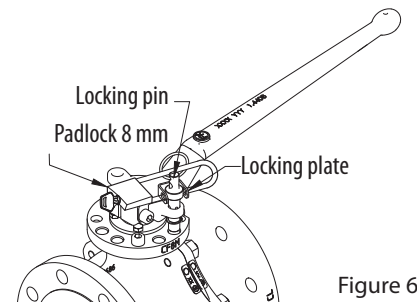

Figure 6
1. Using padlock with 8 mm shank, insert shank thru the elongated hole in locking plate and hole under pull ring (Figure 6).